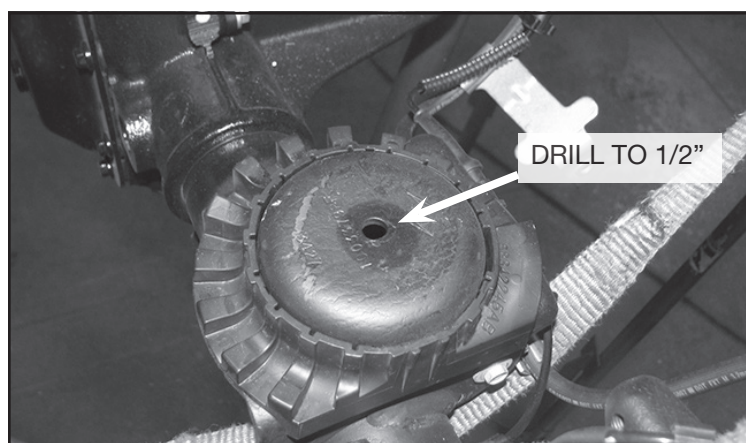

FIGURE 14 - STEP 14
14. On the factory coil spring perch. Use a drill with a 1/2" drill bit and drill out the existing factory hole on both driver & passenger sides. **SEE FIGURE 14**